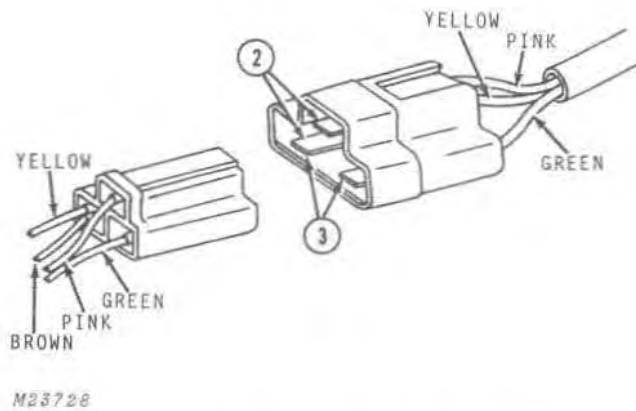

Fig. 3-Testing Headlight Dimmer Switch
2. Connect flashlight tester between pink and yellow leads, Fig. 3. Actuate dimmer switch to high beam. Test light should light.